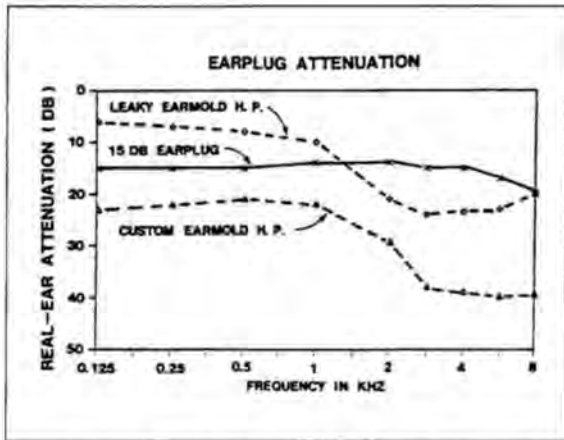
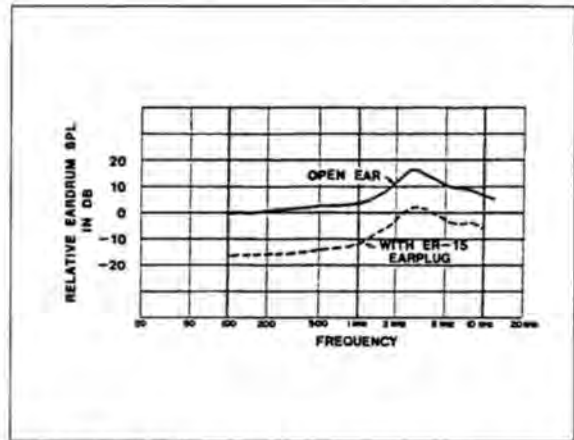
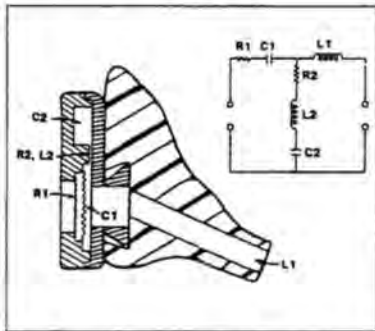
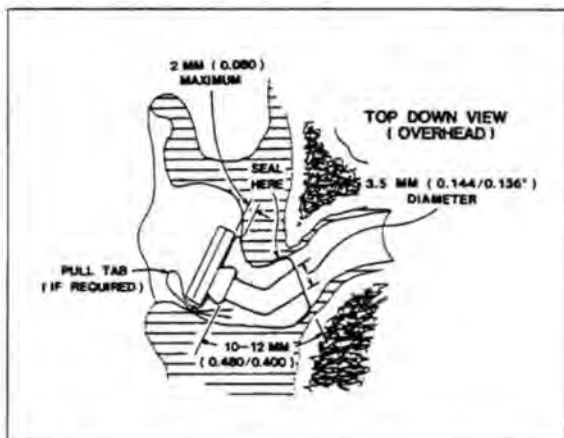

Figure 1. Performances of a well-sealed and of a poorly sealed custom-earmold-type hearing protector with solid construction.¹
Figure 2. Expected eardrum SPL in diffuse (random incidence) sound field with ear open or occluded.
Figure 3. Construction of 15-dB earplug.
Figure 4. Medium (First Bend) Depth. (Standard ER-15 earmold for ER-15 attenuator.)
Fig. 3. Hearing instrument gain (A) and output (B) vs. input for conventional "limiting" type of amplifier (—) and for the new amplifier design (· · · ·), both set for a maximum gain of 20 dB. NOTE: The unaided open ear has neither gain nor loss "0 dB gain" for all inputs.
The type of input-output characteristic that results with the new approach also is shown graphically in Fig. 3. The new amplifier provides the same gain as a traditional amplifier for quiet sounds. For loud sounds, however, the new amplifier allows the hearing aid to "do nothing" (provide neither gain nor loss). For intermediate sounds, an intermediate amount of gain is provided. Combined with proper transducers and acoustic coupling and venting, the result can be a hearing instrument that comes close to being "acoustically invisible."
The need for greater gain at high frequencies, in the case of sloping high frequency loss, can be accommodated by requiring the frequency response, as well as the gain, to change with level.⁷ Fig. 4 shows the frequency response characteristics, with level as a parameter, of a prototype version of the K-AMP with suitable level-dependent, high frequency emphasis. No high frequency emphasis is provided for loud sounds, because the typical individual with mild, sensorineural hearing loss does not appear to have a high frequency hearing loss for loud sounds, only for quiet sounds (recall Fig. 1).
Fig. 4. Output vs. frequency of prototype amplifier adjusted for an individual who has a sloping high-frequency hearing loss for quiet sounds with normal hearing for loud sounds (reprinted with permission from Killion 1988⁸).
Currently available custom-earmold hearing protectors have one defect in common: They muffle the sound. Technically speaking, they give more attenuation at high frequencies than at low frequencies. Figure 1 shows representative performance of a well-sealed and of a poorly sealed custom-earmold type of hearing protector with solid construction, based on data from E. H. Berger.¹
Another type of custom-earmold hearing protector includes a small vent channel, often with a stepped diameter. If the vent channel is very small (0.5-mm diameter, for example), such devices give a real-ear attenuation that is generally similar to the curve labeled "Leaky Earmold H.P." in Figure 1. If the vent channel is a little larger, an undesirable resonance peak is created, and the earplug actually provides *amplification* instead of attenuation at the resonance frequency. A 1-mm diameter vent, for example, gives a peak of about 5 dB near 250 Hz.
The curve labeled "15 dB Earplug" in Figure 1 shows the expected real-ear attenuation of the ER-15™ earplug, based on KEMAR measurements. The trick in producing this high-fidelity response is to reproduce the shape of the natural frequency response of the open ear, but at a reduced level. Figure 2 shows the response of the normal open ear, plotted as the eardrum SPL developed in a diffuse sound field, and the response of the ear with a properly constructed ER-15 earplug in place. The *difference* between these two curves represents the real-ear attenuation of the ER-15 earplug, which is a nearly uniform 15 dB as shown in the solid curve of Figure 1, based on KEMAR measurements.
The ER-15 earplug is a novel development by Elmer Carlson, who added acoustic elements into the sound channel in order to accomplish this result. Figure 3 shows a cross-section drawing of the ER-15 earplug, along with the electrical analog equivalent circuit (included for those who enjoy reading schematics). A flexible plastic diaphragm acts as a compliance, and is labeled C1 in the
equivalent circuit. The sound channel (L1 in Figure 3) acts as an acoustic mass, so that a Helmholtz resonator is formed between the inertance of the sound channel and the combined compliance of the flexible diaphragm and the ear-canal volume. With the proper combination of diameter and length for the sound channel, the Helmholtz resonator will resonate at 2.7 kHz, providing the desired boost at that frequency as illustrated in the lower response curve of Figure 2.
Figure 4 shows the medium depth ER-15 earmold with the ER-15 attenuator button snapped in place. The "canal-aid" style construction should make for a nearly invisible earplug in most ears. The right and left earmolds must be color coded.